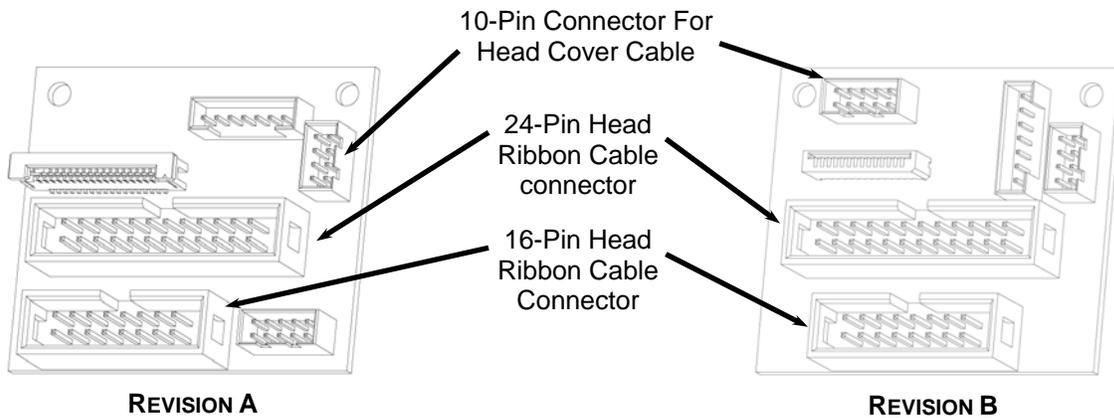

**FIGURE 5:** EXPLODED VIEW OF THE LIFTED COVER
- e. Replace the four screws as shown in Figure 5. The two long screws go in the vertical locations.